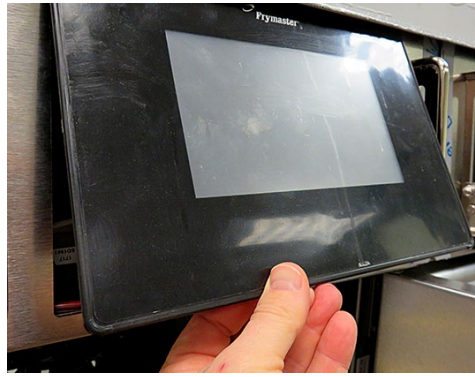

Figure 12
15. Lift the controller out from the bezel (see Figure 12).